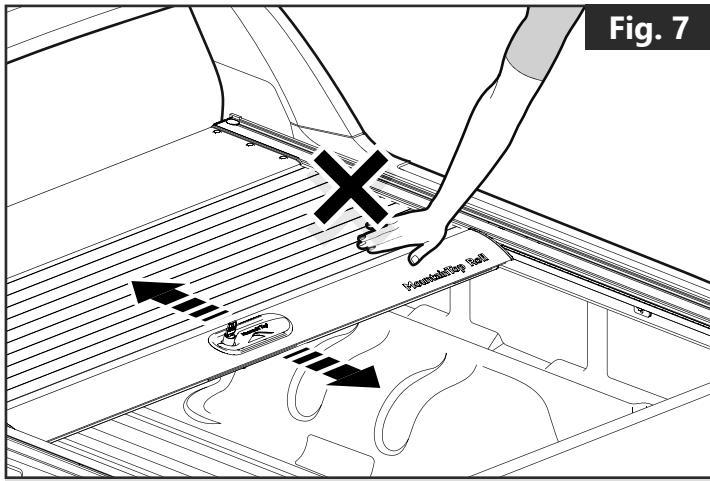

Fig. 7
- Remove fingers from lamellas when opening and closing. (**Fig. 7**)